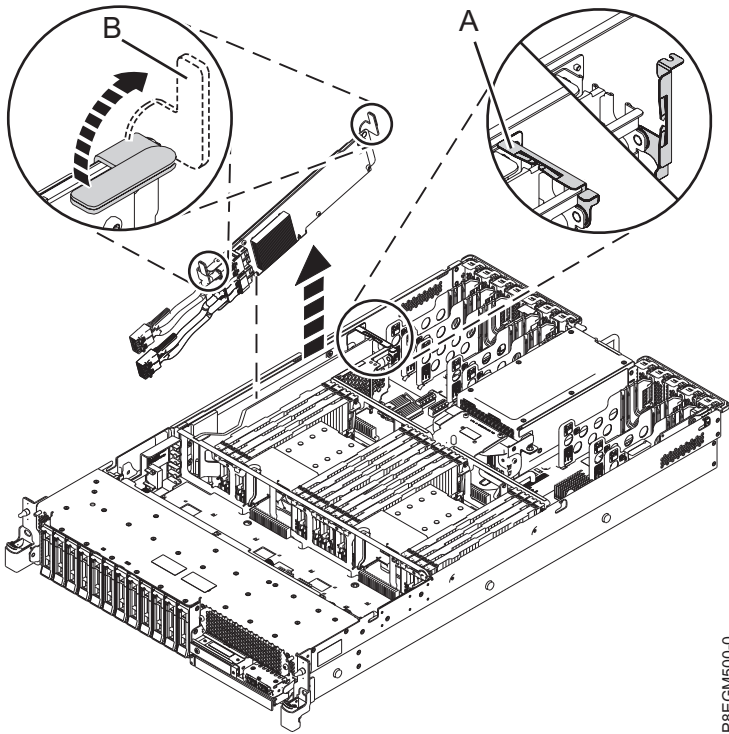

Figure 3. Removing the SAS RAID internal adapter in slot P1-C14
5. Lift the cable retention bracket **(A)** in the direction that is shown in Figure 3.
6. Lift the blue handles **(B)** in the direction that is shown in Figure 3.